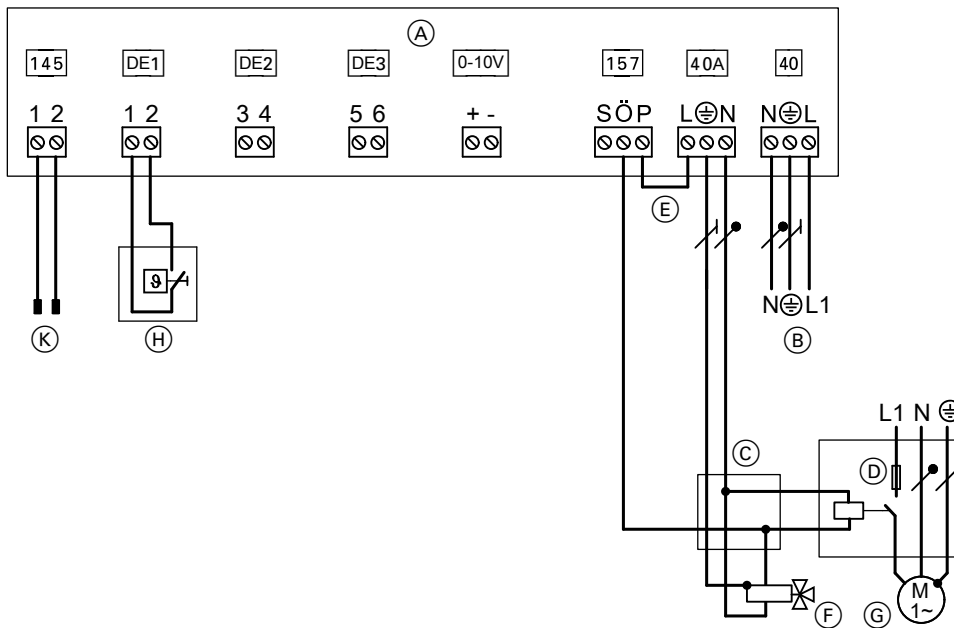

Fig. 46
- Make connections to EA1 extension **only** in accordance with Fig. 46.